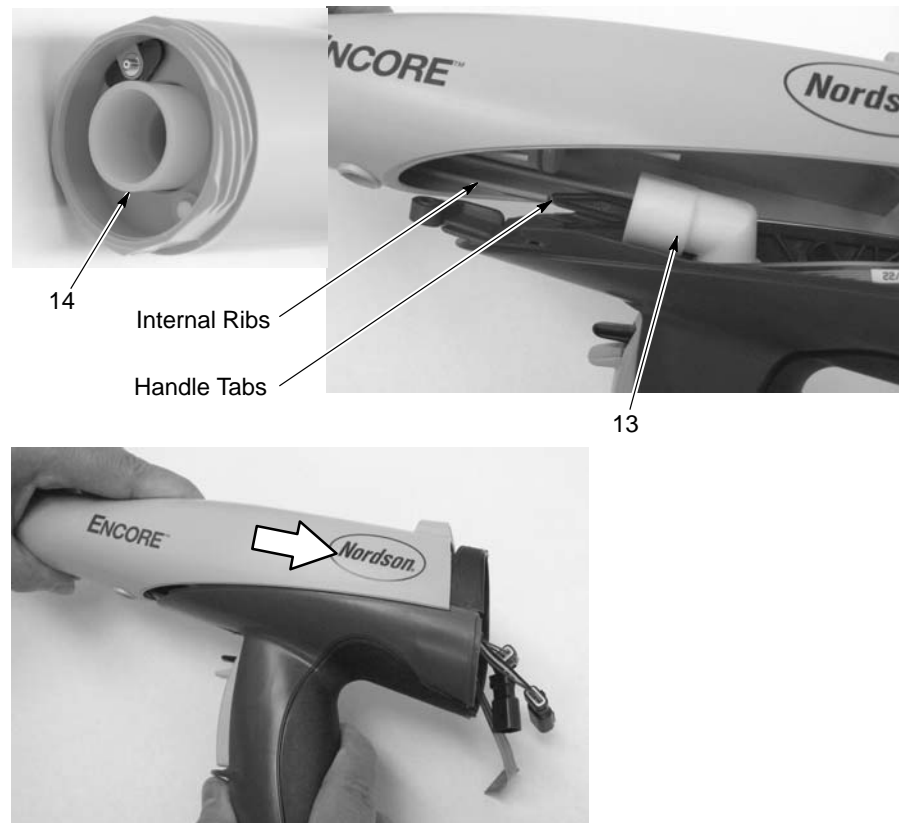

Figure 5-14 Outlet Powder Tube Installation
17. See Figure 5-14. Insert the outlet tube (14) with O-rings installed through the front of the gun body until the end is even with the end of the gun body.
18. Make sure the O-ring is installed in the groove on the inlet powder tube. Install the elbow (13) onto the end of the inlet tube.